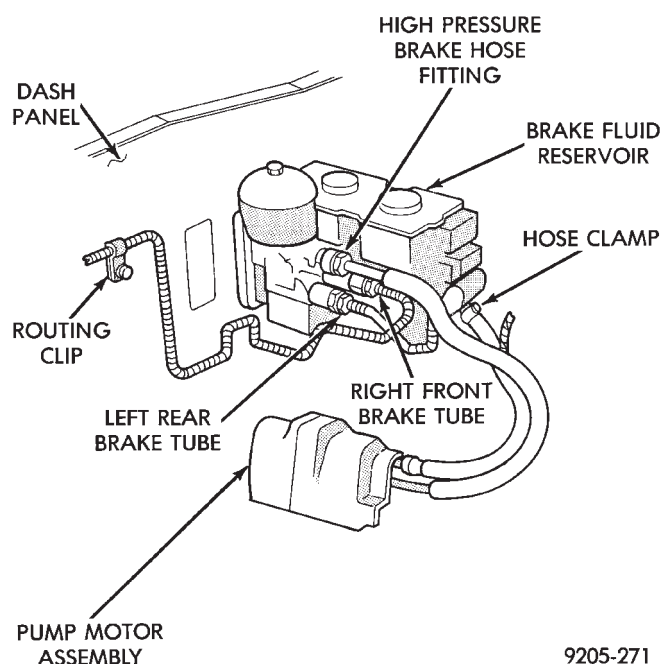

Fig. 5 Brake Tube and Hose Routing
(2) Remove the fresh air intake ducts from the engine induction system.
(3) Loosen the low pressure hose clamp (Fig. 5) at the hydraulic assembly.
(4) Disconnect any routing clips which attach the high and low pressure fluid lines to the body or components of the vehicle (Fig. 5).
(5) Unclip the pump/motor assembly wiring harness electrical connector from the left side engine mount (Fig. 5). Disconnect the pump/motor assembly wiring harness from the underhood wiring harness.
(6) Loosen the high pressure hose tube nut at the hydraulic assembly fitting (Fig. 5).
(7) Remove the high and low pressure hose assembly (Fig. 5) from the hydraulic assembly. Cap all open ports on reservoir and hydraulic assembly to prevent brake fluid from leaking out.
(8) Remove the pump/motor assembly front heat shield to mounting bracket attaching bolt, from front of pump/motor bracket (Fig. 5).
(9) Remove front heat shield from the pump/motor assembly.
CAUTION: Be sure all high and low pressure hose routing clips. Are securely fastened to the vehicle body or component they were removed from when hose assembly is reinstalled (Fig. 5).
(1) Install pump/motor assembly in reverse order of removal.
(2) Tighten the pump/motor assembly fluid lines to the torque values shown below.
- High pressure hose fitting to pump/motor assembly. 16 N•m (145 in. lbs.) Fig. 5.